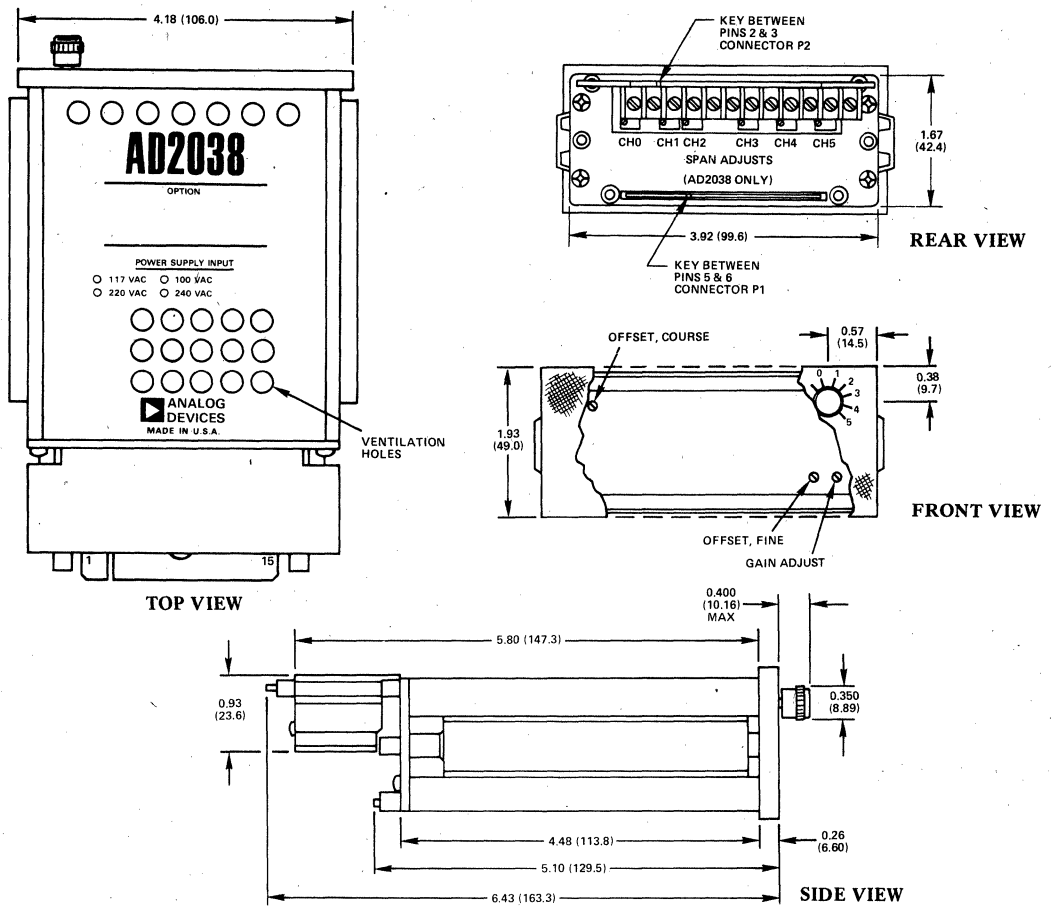

Figure 14. AD2037/38 Mechanical Outline
A precision voltage reference is needed for the calibration of the AD2037. The location of the calibration potentiometers is shown in Figure 14.
3. With sensor at a known temperature adjust the appropriate Span Adjust potentiometer on the rear (See Figure 14) for a reading on the AD2038 equal to the temperature.
A 4 1/2 Digit precision DVM and a resistance decade box are needed. The location of the calibration potentiometers are shown in Figure 14.